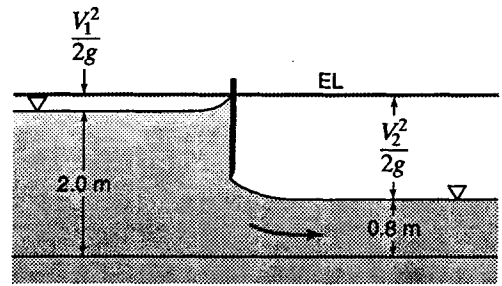

Figure S5.12
5.14.3 Refer to Fig. S5.12. Suppose the gate opening is set so the depth downstream is 2.0 ft. Find the upstream depth under these conditions if the flow rate is 45 ft3/sec per ft of width. Assume no head loss.